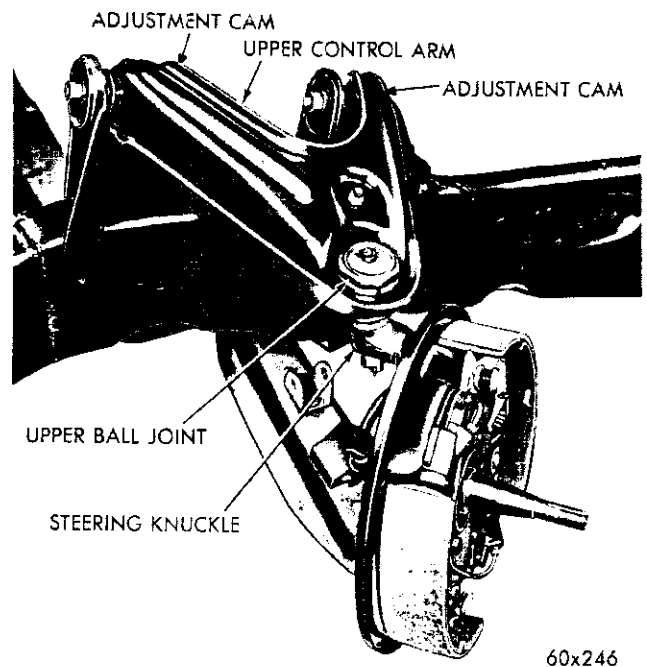

Fig. 16—Upper Control Arm Mounting
The upper control arm support mounting brackets are welded to the frame side rails (Fig. 16).
(1) Slide the upper control arm into position (Fig. 16). Install the arm washers and nuts and tighten the nuts 55 to 65 foot-pounds torque after setting the front end alignment.
(2) Position the new ball joint balloon type seal on the ball joint body and using Tool C-3736 on Models SC-1 and SC-2, Tool C-3867 on Models SC-3 and SY-1 install the seals. To facilitate installation of the seal the ball joint stud should be perpendicular to the ball joint body. Repack the joint with specified lubricant, using a hand type grease gun only, through the plug hole in the top, until the lubricant is emitted from the seal. Install the plug.
(3) Position the stud in the steering knuckle. Install the washer and nut. Tighten the nut on SC-1 and SC-2 Models 100 foot-pounds and on SC-3 and SY-1 Models 135 foot-pounds torque. Install the cotterpin.
(4) Install the wheel and tire and tighten in specified sequence (See "Wheel and Tires" Group 22). Adjust the front wheel bearing. Remove the jack.
(5) Set the front end alignment.